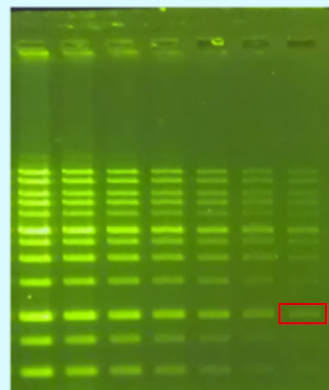

Fig. 1
The Novel Green provides an easy 2-step method to stain the DNA band from DNA electrophoresis. This unique reagent ensures the DNA to be stained with a high sensitivity and good quality. Novel Green is a next-generation DNA-binding dye ideal for use in quantitative real-time PCR (qPCR) and many other applications. We designed the dye by taking into consideration several essential dye properties relevant to PCR, including PCR inhibition, safety, and stability and fluorescence spectra of the dye. Ethidium bromide (EtBr), which presents sensitivity for detecting 1-5 ng double-stranded DNA (dsDNA) in the agarose gel analysis, has been the most common dye for nucleic acid gel staining. However, several drawbacks of EtBr have been understood, including that EtBr is a mutagen/carcinogen and presents a high risk of inducing cancer. Furthermore, the ultraviolet (UV) light used to illuminate EtBr-DNA compounds probably results in skin or eye damage to the user if misconduct. It's also noted that exposure to the UV light might cause chemical modifications of the DNA samples in the gel, such as the formation of TT dimmers, leading to challenge with the subsequent DNA manipulations. The Novel Green shows a high sensitivity bound with DNA (Fig.1), it also brings a more reliable and safer experience of use, since the stained gel can be visualized with the blue-light transilluminator, thus avoiding the risk of skin/eye damage as well as reducing the side effects of DNA modification caused by the UV light.
Fig. 1 The 1Kb DNA Ladder (250-10,000 base pairs, Cat. No. DM010-R500, GeneDireX) was 2X serial diluted (from 2 to 128 dilution, and the concentration of the red mark is 0.72 ng/ 5ul) and loaded in the 1% agarose gel. After electrophoresis, the gel was stained with Novel Green for 10 minutes. The gel was observed the blue-light transilluminator.
The Novel Green Plus provides an easy 2-step method to stain the DNA band from DNA electrophoresis. This unique reagent ensures the DNA to be stained with a high sensitivity and good quality. Novel Green Plus is a next-generation DNA-binding dye ideal for use in quantitative real-time PCR (qPCR) and many other applications. We designed the dye by taking into consideration several essential dye properties relevant to PCR, including PCR inhibition, safety, and stability and fluorescence spectra of the dye. Ethidium Bromide (EtBr), which presents sensitivity for detecting 1-5 ng doublestranded DNA (dsDNA) in the agarose gel analysis, has been the most common dye for nucleic acid gel staining. However, several drawbacks of EtBr have been understood, including that EtBr is a mutagen / carcinogen and presents a high risk of inducing cancer. Furthermore, the ultraviolet (UV) light used to illuminate EtBr-DNA compounds probably results in skin or eye damage to the user if misused. It's also noted that exposure to the UV light might cause chemical modifications of the DNA samples in the gel, such as the formation of TT dimers, leading to challenge with the subsequent DNA manipulations. The Novel Green Plus shows a high sensitivity bound with DNA (Fig.1), it also brings a more reliable and safer experience of use, since the stained gel can be visualized with the blue-light transilluminator, thus avoiding the risk of skin/eye damage as well as reducing the side effects of DNA modification caused by the UV light.